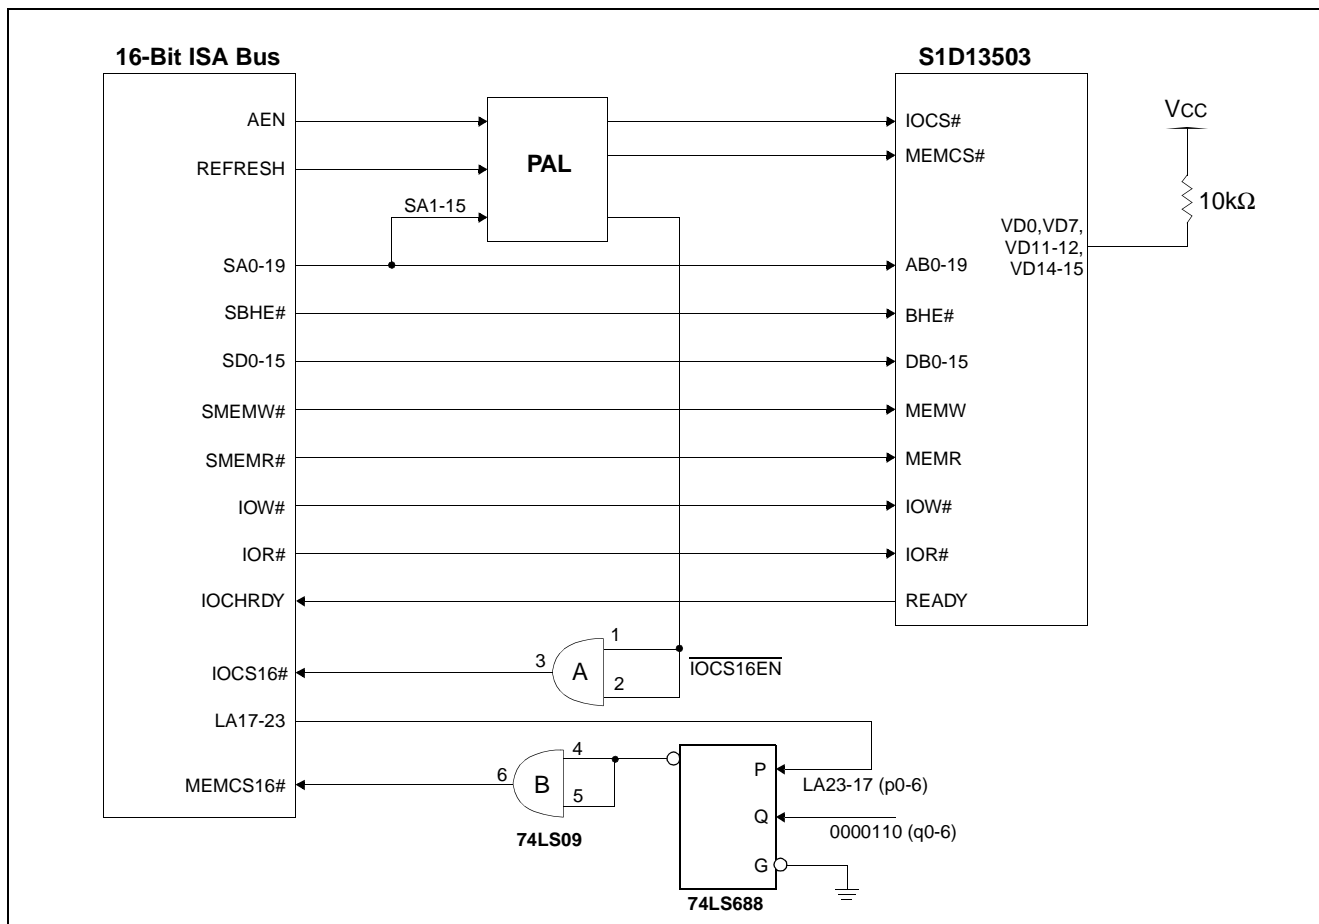

Figure 1: 16-Bit ISA Bus Implementation
1. As shown in Figure 1, the 74LS688 is configured as a memory decoder with valid addresses between 0C0000h and 0DFFFFh. This provides the MEMCS16# signal allowing for 16-bit memory cycles. As stated in the ISA specification, the MEMCS16# is a straight address decode without qualification.